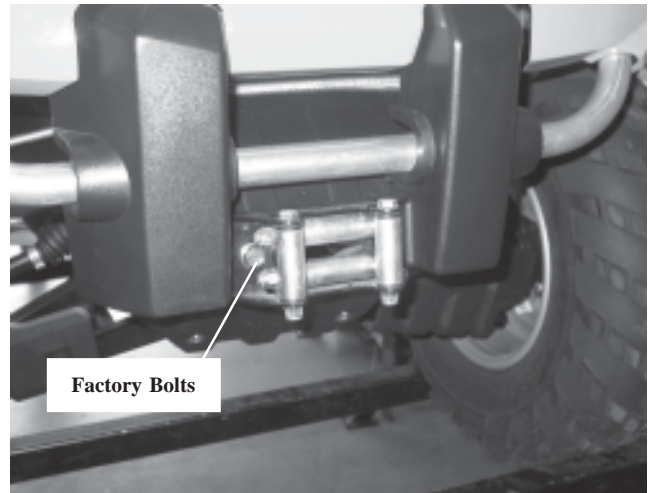

Figure 1
1. Remove factory bolts, for fairlead, using 15mm wrench and 15mm socket. Assemble fairlead to ATV using factory bolts. See Figure 1.